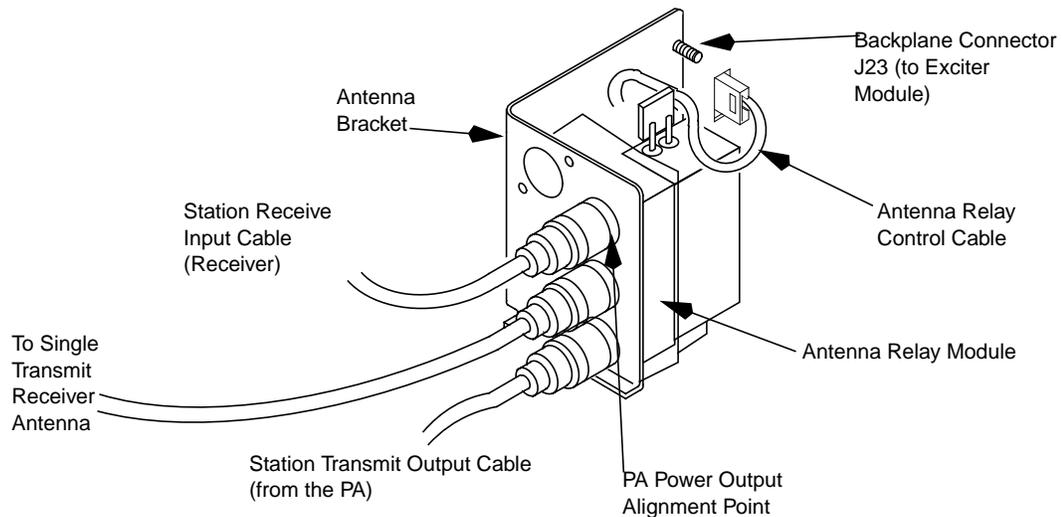

Figure 5-3: Backplane Connections for an Antenna Relay Module
- RF cables from the PA to the Receiver already connected (see Figure 5-3)